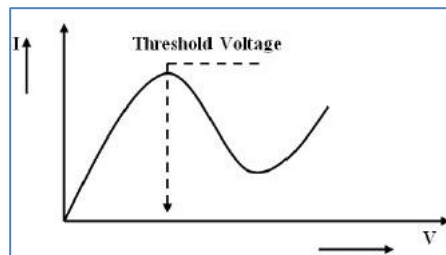

Figure 3.2: V – I characteristics of Gunn diode
- Plot Gunn bias vs frequency characteristics as shown in the figure 3.2 and calculate the oscillation frequency of the diode